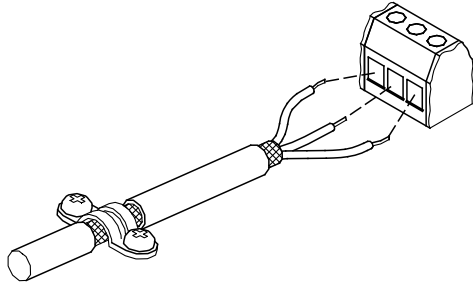

Fig. 10 Stripped cable with screen and wire connections
- Connect the screens of the cables to frame at both ends with good connection. The screens must be as close as possible to the terminals. See fig. 10.